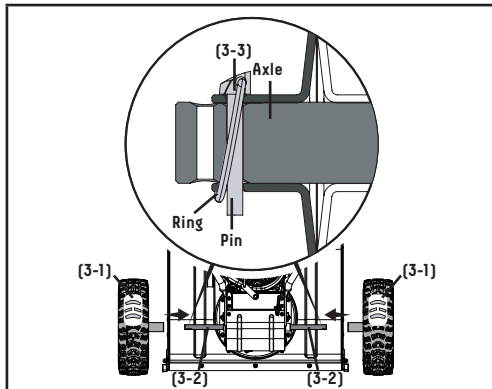

Figure 3
- Slide the wheel (3-1) onto axle (3-2) as the arrow shows. Tread pattern should face forward. Place axle pin (3-3) into wheel. The axle has a center hole to attach the wheel to the axle (which connects to the drive train). Once inserted, fold ring around axle to hold in place (Fig. 3).